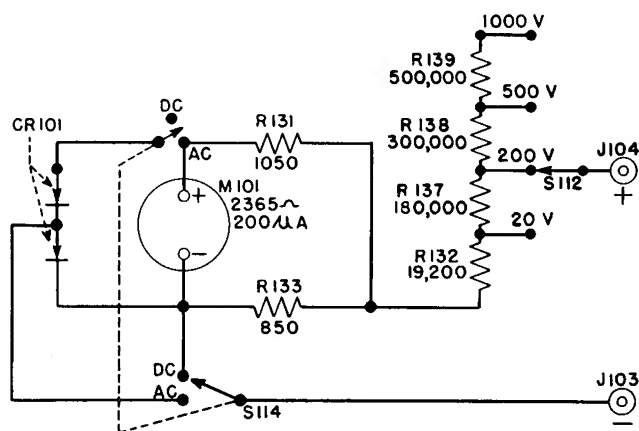

Figure 2-9. Simplified Voltmeter Circuit
a. Volts A.C. and D.C. (See Figure 2-9)
(1) The voltmeter circuit consists of the METER, M101, shunted by resistors R131 and R133, with a